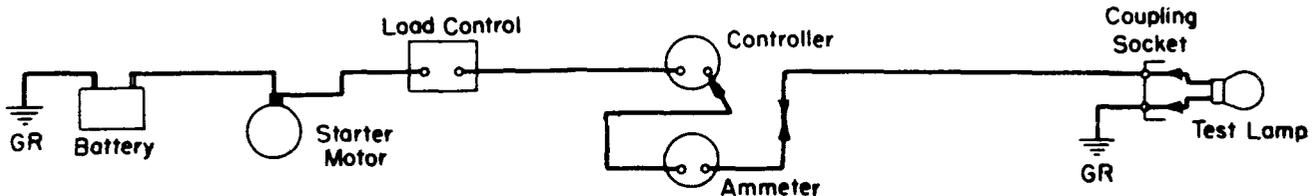

Fig. 5
6.06 After noting ammeter reading "B" in 6.04 transfer the ammeter lead from the terminal on one side of the controller to the vacant terminal on other side of the controller. See Figure 5.